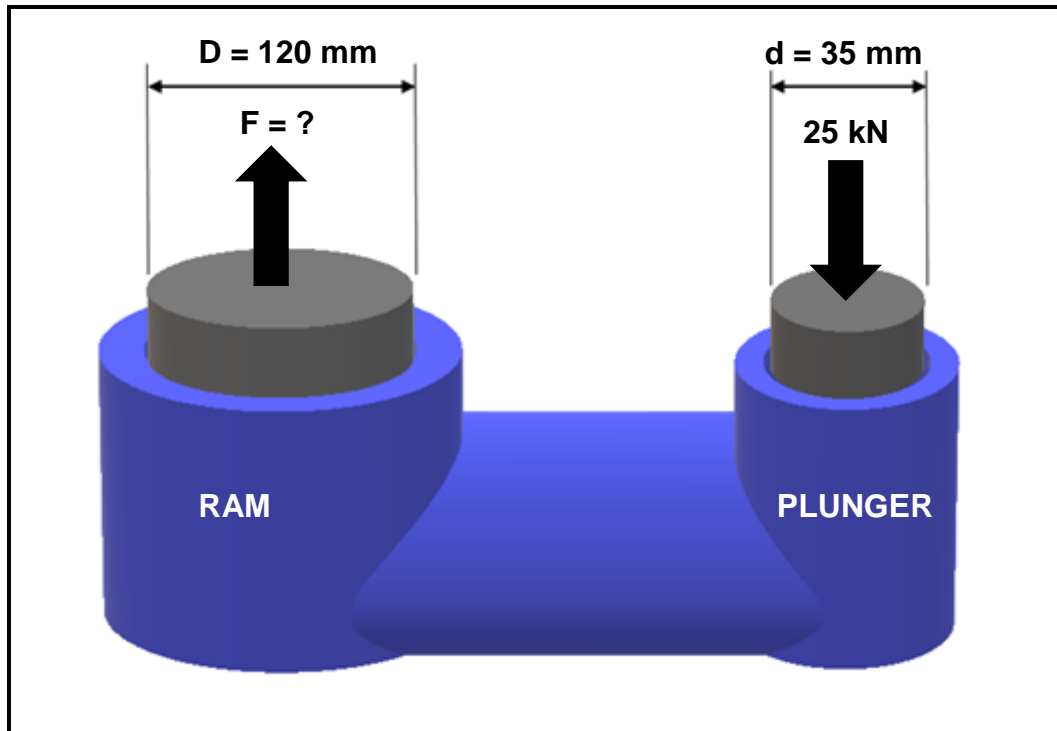

FIGURE 11.1
11.1 An artisan was instructed to design a hydraulic system that will be used to press bearings. The force that is exerted onto the plunger is 25 kN. The specifications of the system are shown diagrammatically in FIGURE 11.1 below.